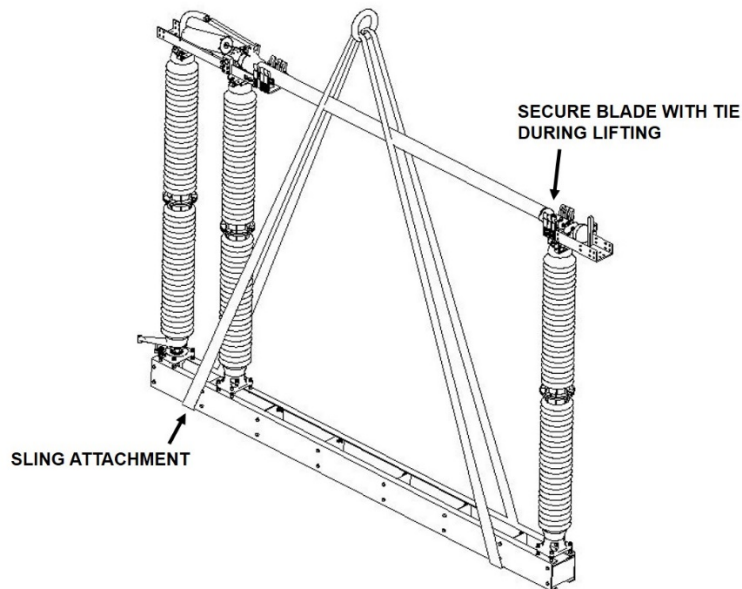

Figure 9: Sling Attachment
- 1.2.1. Alternately (and easier) each pole may be assembled on the ground and hoisted to the structure as a complete unit. **CAUTION:** To prevent overturning during assembly, the switch base must be bolted to a level, stable platform (e.g. metal sawhorses). **CAUTION:** Lift fully assembled pole unit by the base only. **DO NOT** lift the pole unit by the live parts. Refer to **Figure 1** and **Figure 9**.
- 4.4. Lift the assembled switch by the switch base only. Refer to **Figure 9**.